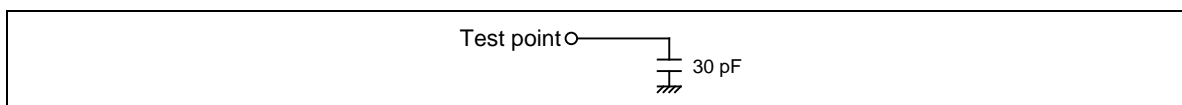

Figure 15 Load Circuit
3. Defined by connecting the load circuit shown in Figure 15.